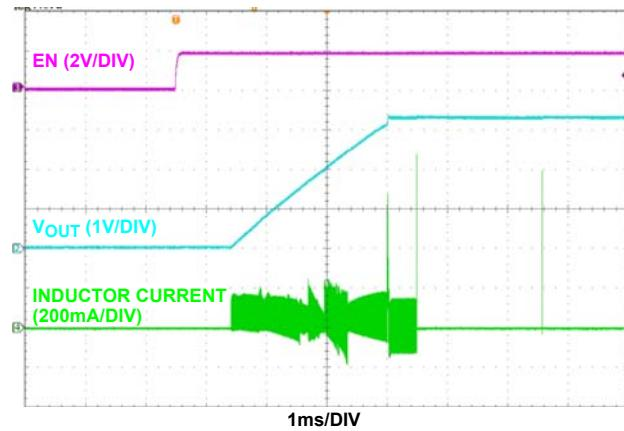

FIGURE 2. ISL91107IR START-UP WITH $V_{IN} = 2V$ AND $V_{OUT} = 3.3V$
Refer to the "Quick Setup Guide" to configure and power up the board for proper operation. During the power-on process, the expected waveforms are shown in Figures 2 and 3.
7. Monitor the output voltage start-up sequence on the scope. The waveforms will look similar to that shown in Figures 2 and 3.